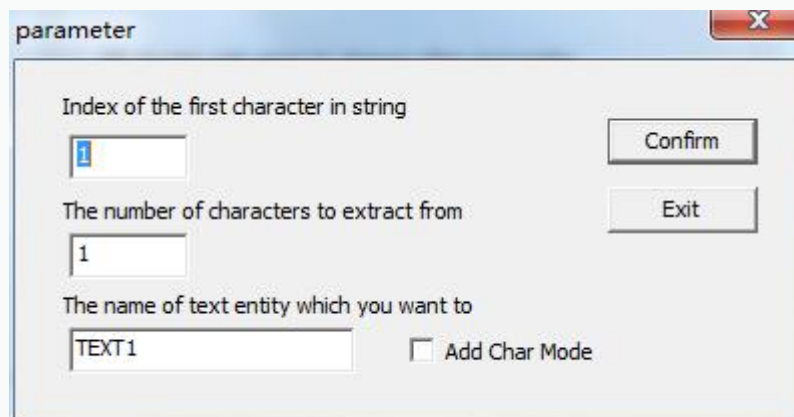

Fig.4-30 Advance Function
The keyboard element function uses frequently in this kind of situation when the processing needs the real-time input to the processing content. If the customer present need processes one batch of work pieces, on each work piece is printed with a bar code, when processing needs the user with the bar code scanning gun real-time scans the work piece to read the content on the bar code, then with laser to mark to the work piece assigns in the position, at this time can use the keyboard element function. At the processing time system springs like the figure 4-30 shows the dialog box, the operator with the bar code scanning gun scanning bar code work piece on, the bar code scanning gun inputs the read content to the dialog box inside and closes it automatically, then the system will start to process the content read a moment ago automatically .
- Select “**Enable Split String to Change Other Text Entity**”, and click “Add” button to get the dialog box as shown in Fig. 4-30.